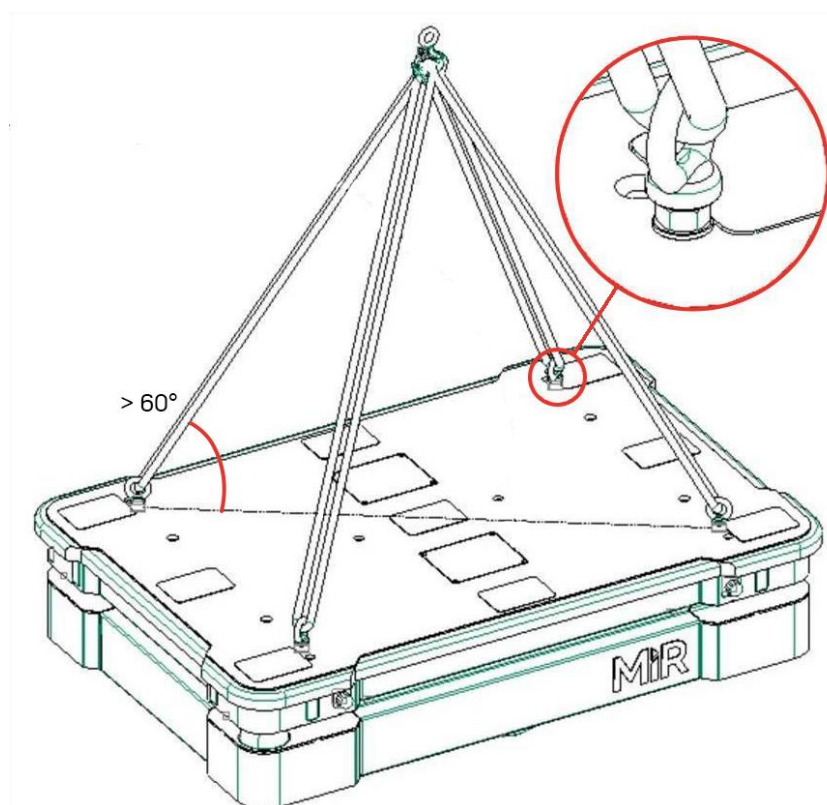

Figure 14.1. Illustration of how to lift MiR600.
It may be necessary to lift the robot while servicing it. To lift the robot, use the four M12 mounting holes in the corners of the top cover of the robot—see **Figure 14.1**.
- The angle between the top cover and sling must be greater than 60°—see **Figure 14.1**.